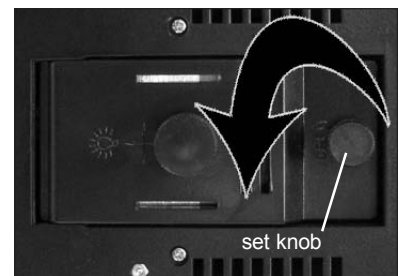

Figure 57
2. Open the lamp access compartment located on the bottom of the microscope base by turning the set knob (figure 57) counter-clockwise until the door comes loose.